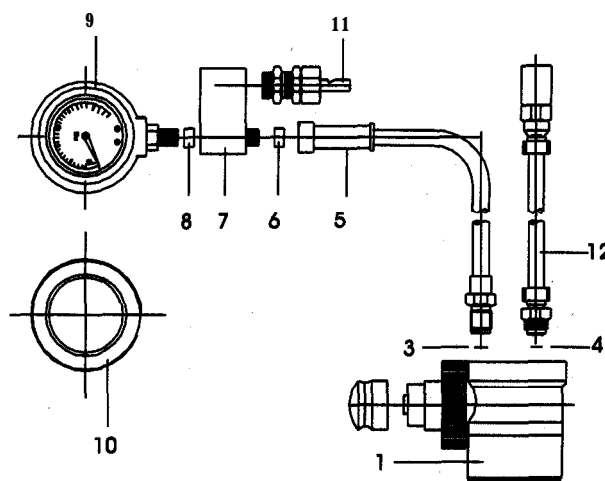

Figure 3
*Fit new copper washer (3) and copper **sealing** ring (6) (Figure 3).*
Note orientation as shown in Figure 3.
Fit new sealing washer (4) (Figure 3).